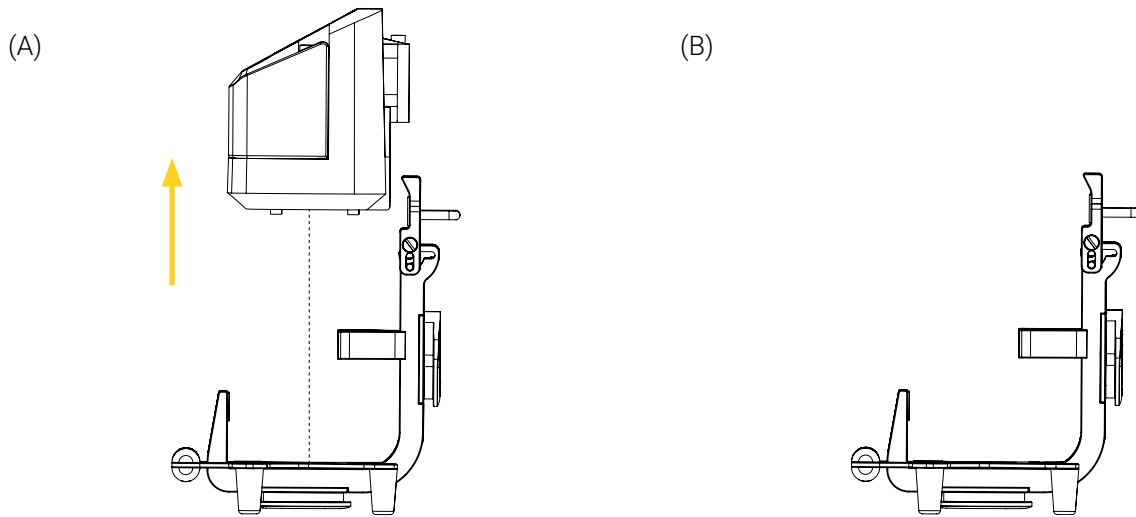

Figure 9: Removing the medical device from the support bracket
2. Lift and remove the medical device vertically from the support bracket (Figure 9), paying close attention not to wedge the power cords or tubing, then set it aside on a clean and flat surface, or store it following your established internal protocols.